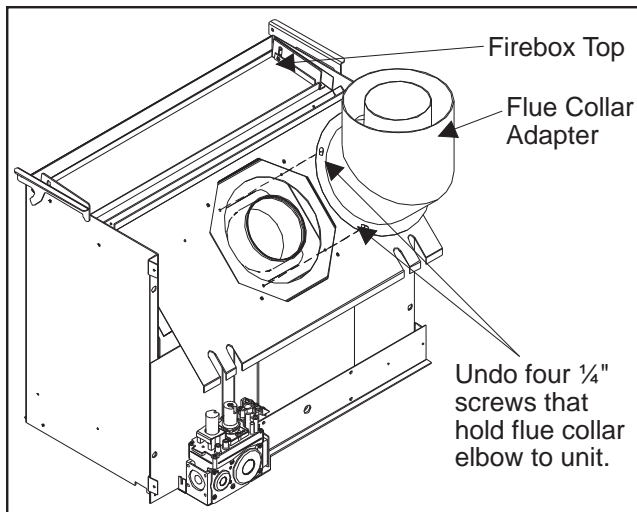

Figure 38: Step 3 of Converting Top Vented into Rear Vented.
2. Remove the four (4) ¼" screws that hold the flue collar elbow to the unit body (see Figure 38).